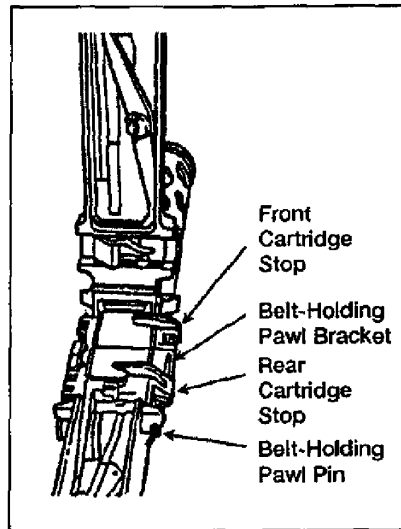

Figure 071-022-0001-24. Installation of the rear cartridge stop assembly and front cartridge stop
(1) Determine the direction of feed. Figure 071-022-0001-24 shows left-hand feed. Place the right-hand rear cartridge stop assembly and front cartridge stop on the belt holding pawl bracket